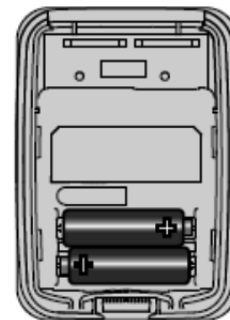

Figure 2. Battery Installation
7. Before installing the Wireless Outdoor Sensor, make sure 2 AA (lithium preferred) batteries are inserted. See Figure 2.